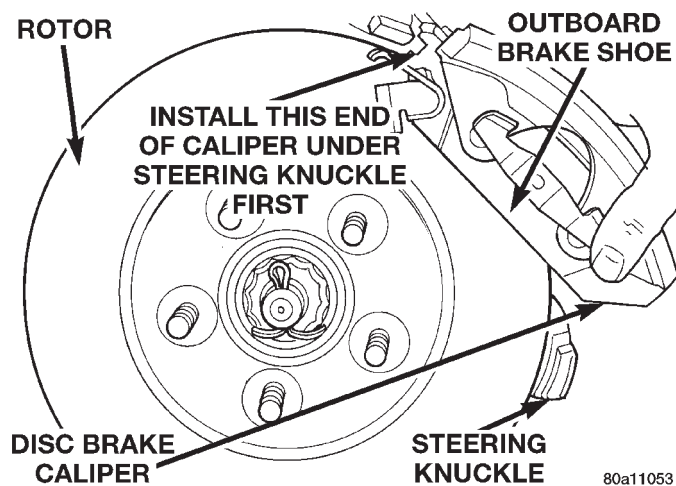

*Fig. 55 Installing Brake Caliper*
(7) Carefully position brake caliper and brake shoes over brake rotor by first hooking top of brake shoes onto upper abutment on steering knuckle (Fig. 55). Then rotate caliper into position at bottom of steering knuckle.